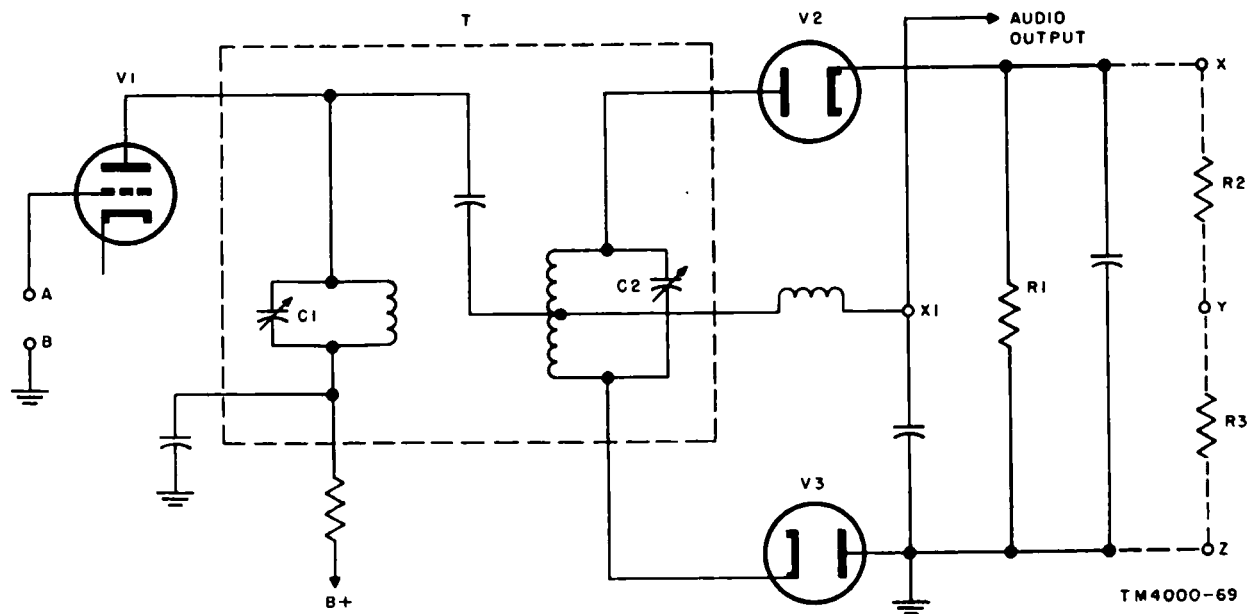

Figure 82. Ratio detector circuit, showing modification for alinement.
b. To aline the ratio detector (fig. 82), connect the signal generator as indicated in *a* above and set the generator to the correct frequency. Connect a high-resistance meter across R1 and adjust the primary of T for a maximum indication on the meter.
c. To aline the secondary, it is necessary to divide the load circuit into two symmetrical parts. This can be done by connecting two resistors of 100,000 ohms each (R2 and R3 of figure 82) across load resistor R1. With R2 and R3 connected as in figure 82, connect the voltmeter between the junction of the two added resistors and the audio output terminal of the detector (X1 and Y of fig. 82). Tune the secondary of T for a zero indication on the voltmeter.
a. In receivers that use a ratio detector, the IF stages are alined by measuring the detector output voltage while tuning the IF amplifiers. To do this, connect the voltmeter across the ratio detector load resistor (such as R1 of fig. 82).
- (1) Connect the signal generator (adjusted for the correct IF) to the input of the first limiter.
- (2) Connect the voltmeter across the grid resistor of the second limiter. If two resistors are used in series in the limiter grid circuit, connect the voltmeter between the junction of the resistors and ground.
- (3) Tune the coupling circuit between the limiters for a maximum indication on the voltmeter. The signal generator output should be kept low so that the voltage indication will rise sharply when the limiter tuning is rocked back and forth.